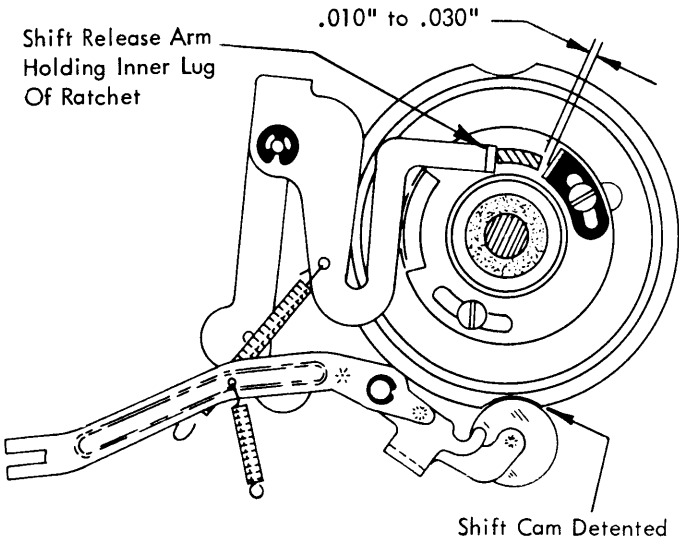

FIGURE 23. Shift Cam Stop Adjustment
2. Shift Clutch Spring Retaining Plate - Adjust the retaining plate attached to the shift cam (Fig. 21) to satisfy the following condition. With the machine turned OFF and the shift cam detented, the shift clutch ratchet should rotate $1/16"$ to $3/32"$ when the shift release arm releases the ratchet. The rotation can be observed relative to the shift interlock (Fig. 23). The distance from the center of one ratchet tooth to the next is $3/32"$.
3. **Shift Cam Stop** - Adjust the stop so that the shift clutch ratchet has .010" to .030" rotary motion between the shift cam stop and the shift release arm with the mechanism at rest (Fig. 23).